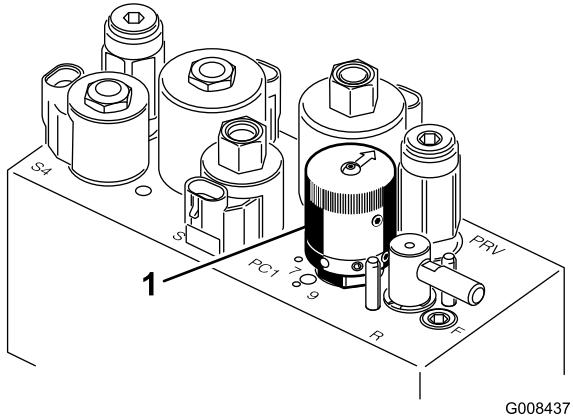

Figure 30
4. To set the reel speed, rotate the knob (Figure 30) until the indicator arrows are in line with the number designating desired setting.